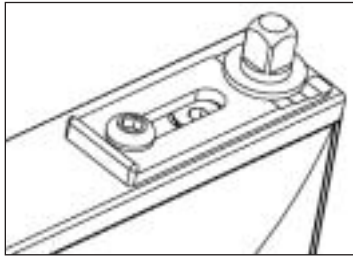

Fig. 1A
1. To disassemble the door, first disconnect it from its power source. Open the door and remove the lock plate (figure 1A).